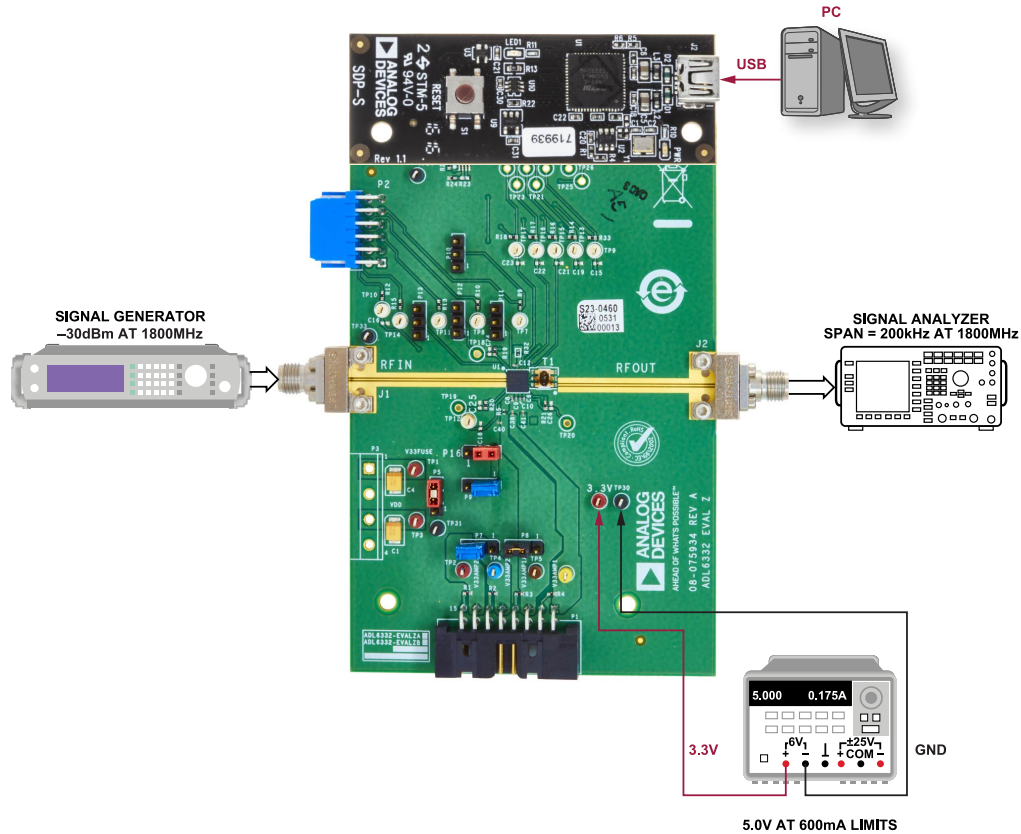
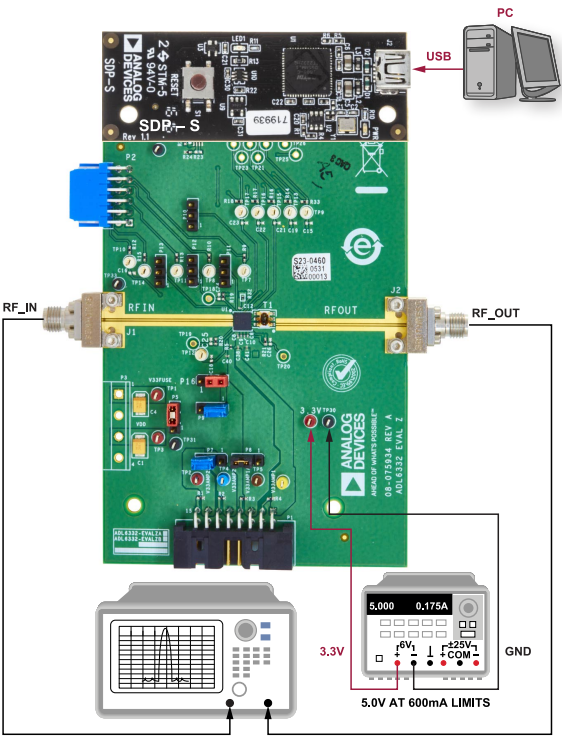

Figure 1. Typical Measurement Setup (Option 1)
Figure 3. ADL6332-EVALZA Measurement Setup with Network Analyzer (Option 2)
Network Analyzer	Connect to one port on the network analyzer (see Figure 3)
Signal Generator	Set the source to -20 dBm output signal level (see Figure 1)
Spectrum Analyzer	Connect to port (see Figure 1)
1. Configure the hardware according to the Hardware Setup section, and as shown in Figure 1 or Figure 3.